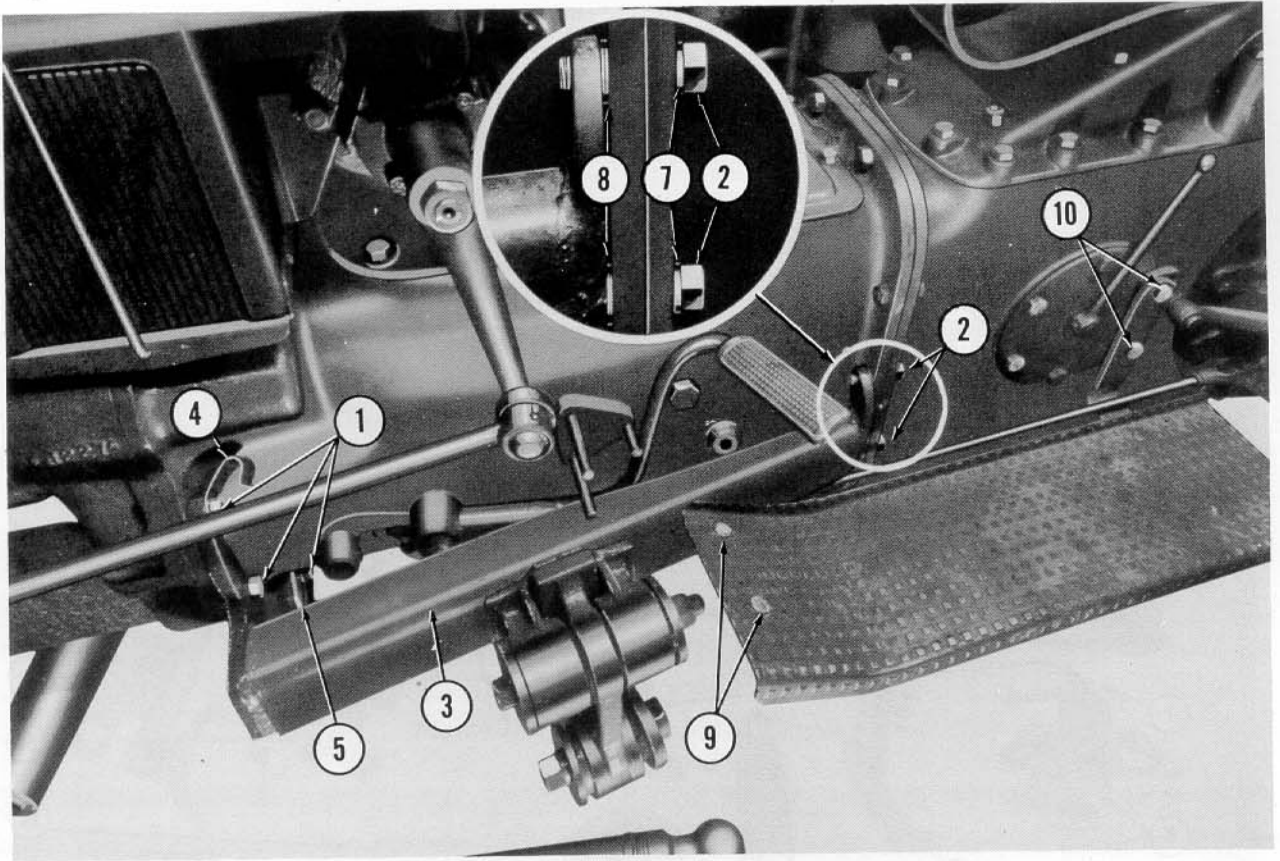

Figure 3
- a. Remove three stud bolts (1), Figure 3, from left side of transmission housing.
- b. Remove two lower bolts (2) from rear of transmission housing.
- c. Position left hand mounting frame (3), and secure forward end with three stud bolts provided in bag of small parts. Insert center stud first. Secure safety switch wire clip (4) and upper end of frame bracket with top bolt. Secure safety switch bracket (5) and lower end of frame bracket with lower bolt.
- d. Attach rear end of mounting frame with bolts (2) and lock washers (7), (see insert, Figure 3), provided with frame. Use flat washers (8) provided,
6. Attach forward end of left hand running board to mounting frame with two bolts (9), Figure 3. Attach rear end of running board where brake pawl is attached to tractor with two bolts (10), provided in bag of small parts.